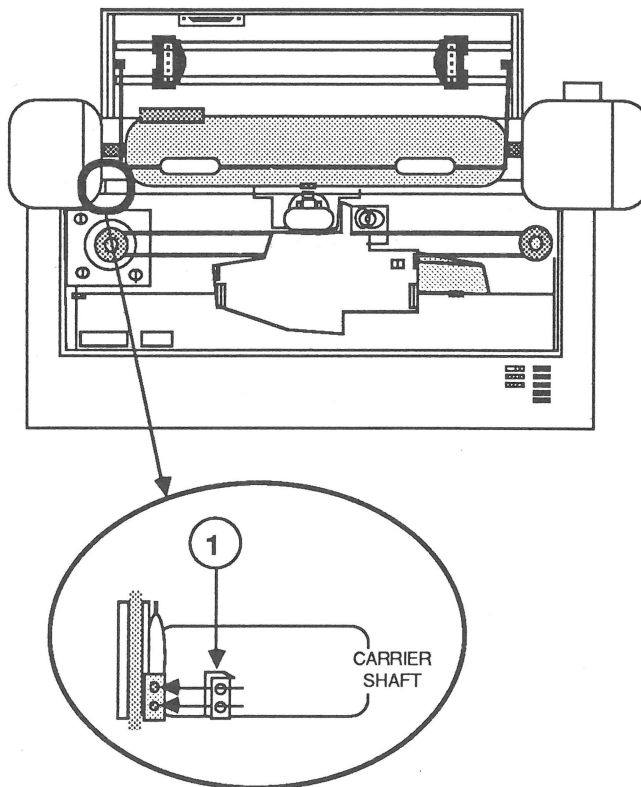

FIGURE 4
2. Push the carrier shaft toward the rear of the machine. Using needlenose pliers, install the shim on the left side of the carrier bar by inserting the two protruding tabs into the holes on the shim (Figure 4, #1). Slide the shim into position. Release the carrier shaft.
1. Look at the left side of the carrier shaft (Figure 4, #1).